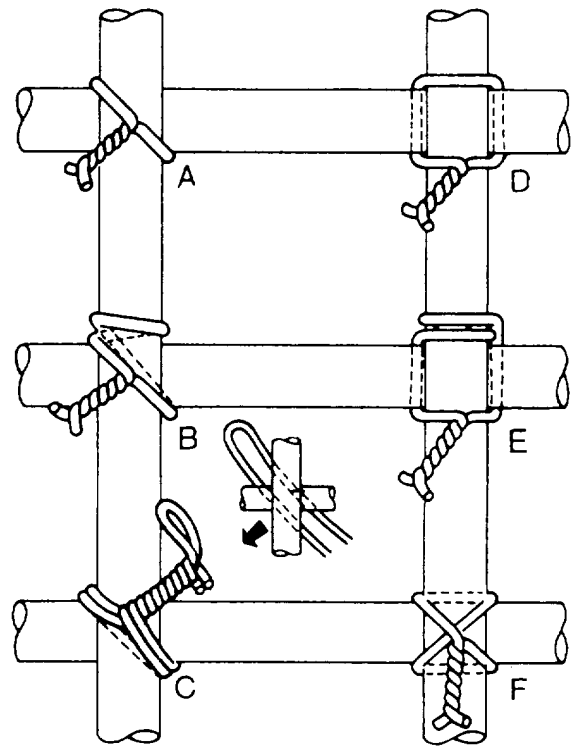

Figure 7-20.-Types of ties.
Several types of ties can be used with rebar. Some are more effective than others. The views in figure 7-20 illustrate the six types used by the Seabees: (A) snap, or simple, tie, (B) wall tie, (C) double-strand tie, (D) saddle tie, (E) saddle tie with twist, and (F) cross, or figure-eight, tie. As a Builder, you will probably be concerned only with the snap
SNAP, OR SIMPLE, TIE.— The snap, or simple, tie (view A of figure 7-20) is simply wrapped once around the two crossing bars in a diagonal manner with the two ends on top. The ends are then twisted together with a pair of side cutters until they are very tight against the bars. Finally, the loose ends are cut off. This tie is used mostly on floor slabs.
WALL TIE.— The wall tie (view B of figure 7-20) is made by taking one and one-half turns around the vertical bar, then one turn diagonally around the intersection. The two ends are twisted together until the connection is tight, then the excess is cut off. The wall tie is used on light vertical mats of steel.